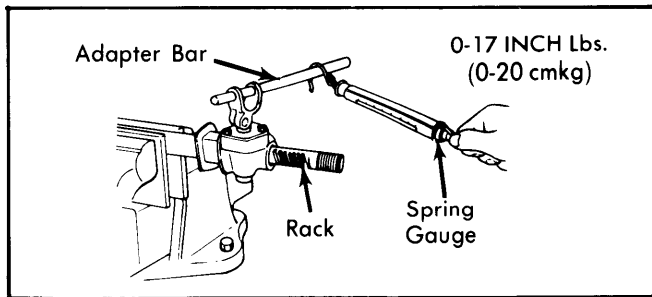
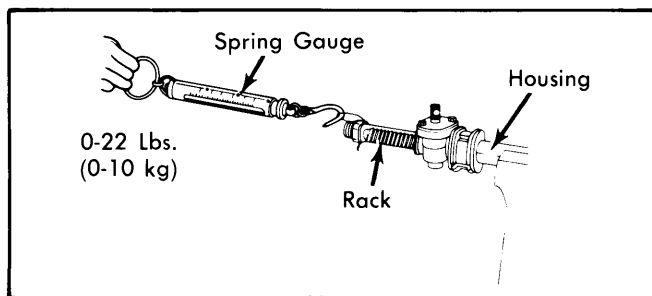

Fig. 2 Measuring Pinion Shaft Rotary Torque
Fig. 3 Measuring Steering Gear Rack Pulling Force
6) With steering gear assembled, measure torque required to keep pinion and rack in motion. Install steering gear in padded vise and attach torque wrench to bar and spring gauge. See Fig. 2. Pinion turning torque should be 0-17 INCH lbs. (0-20 cmkg). Measure force to pull rack from neutral (center) position. See Fig. 3. Force should be 0-22 lbs. (0-10 kg).